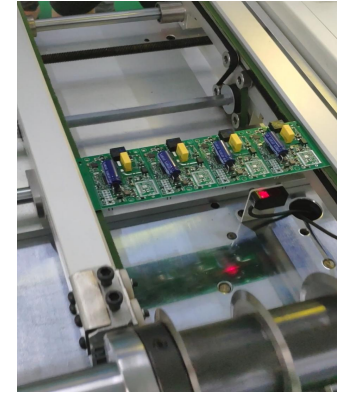

Figure 1
5. UPH: ①PCBA: about 5s a board, as an example in Figure 1: **≈ 2500 pcs** (small board) Product deviation value: 100 pcs